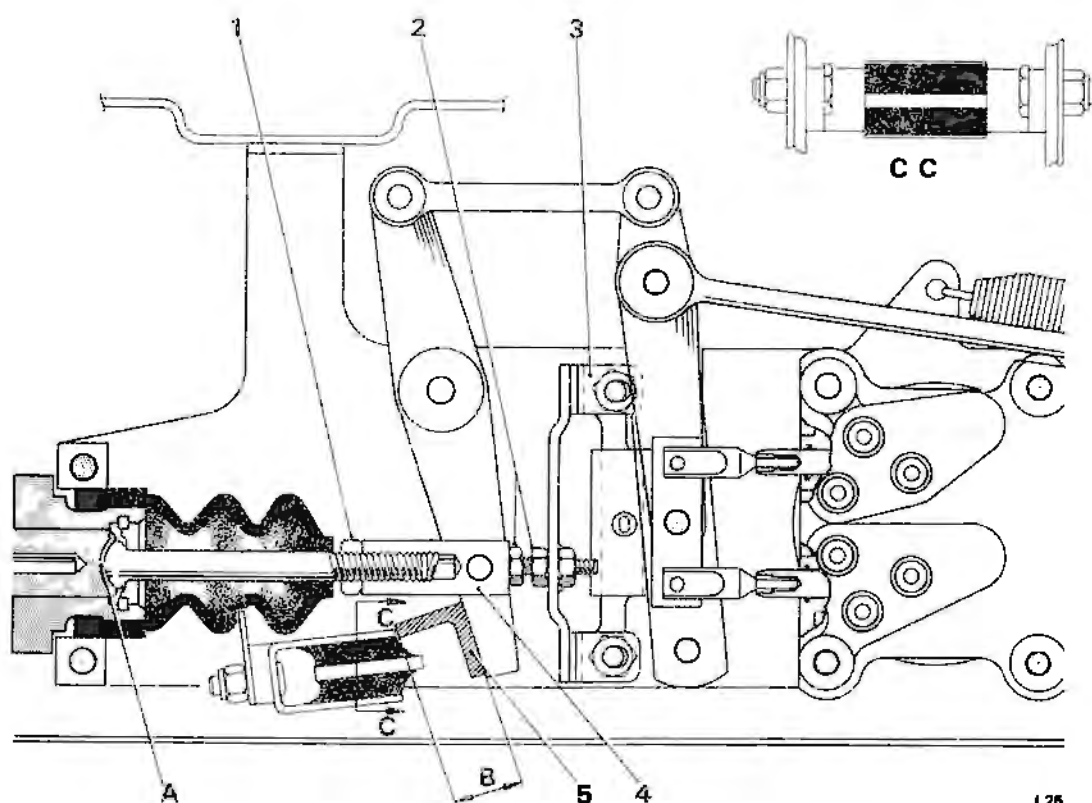

FIG.1 Foot brake actuation linkage with flexible 'ON-STOP'
2. Slacken the master cylinder rod lock-nut and adjust the clearance between the 'ON STOP' bracket and the master cylinder lever to between 0.750 in. and 0.765 in. (19.05 mm. and 19.44 mm.) as shown at 'B' in Figure 1. The measurement should be taken at right angles to the lever.
2. Screw the 'OFF STOP' adjusting bolt towards the master cylinder lever until a clearance of between 0.005 in. and 0.010 in. (0,13 mm. and 0,25 mm.) is obtained between the head of the adjusting bolt and the master cylinder rod connecting block. When the brake pedal is released this clearance will appear between the master cylinder piston and the operating rod, as shown at 'A' in Figure 1.